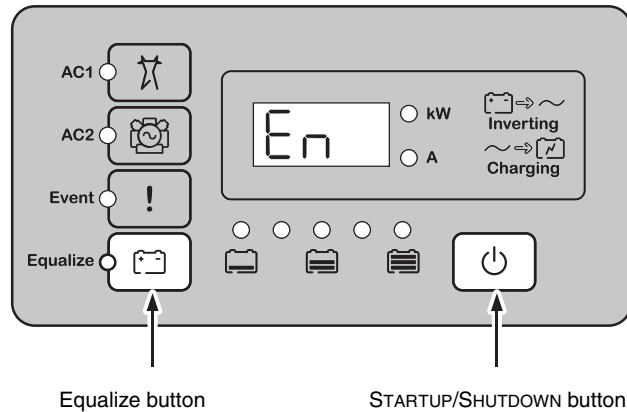

Figure 3-17 Enabled mode
- ◆ On the inverter information panel, simultaneously press the STARTUP/ SHUTDOWN button and the Equalize button. The Conext XW+ is now enabled, and *En* (enabled) is briefly displayed on the inverter information panel, as shown in Figure 3-17.